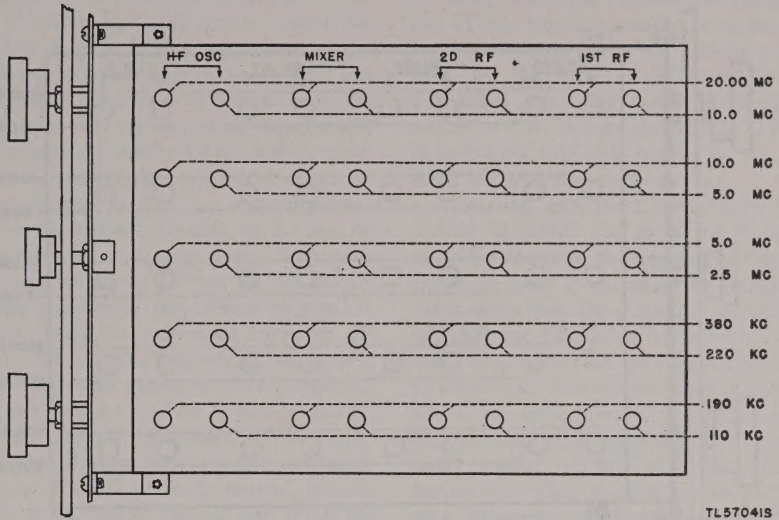

Figure 46. Radio Receiver BC-779-(*), alignment chart.
shown in figures 46, 47, 48, and 49, respectively. If necessary, the second harmonic can generally be used when the fundamental frequency is not available. For example, a signal generator covering all frequencies from 100 kc to 20 mc, in addition to being ideal for checking Radio Receiver BC-779-(*), could be used to check Radio Receiver BC-794-(*), by using the second harmonic of 20 mc instead of the 40 mc called for in figure 47. The signal generator should have an output of about 100 microvolts and an output impedance of approximately 100 ohms for best results when alining the r-f and h-f oscillator circuits. For i-f alinement these values are not critical. The frequency calibration of the signal generator is extremely important in order that the receiver dial calibration be correct.
b. To correct dial calibration, refer to an alinement chart, figure 46, 47, 48, or 49 for the location of the h-f oscillator adjustments as well as the signal frequencies at which the settings should be made. If the 2.5- to 5.0-mc band is to be corrected, the signal generator may be *accurately* set to 2.5 mc and its second harmonic (if strong enough) used for the 5.0-mc end of the band. In either case, whether the 5.0-mc frequency is the fundamental or second harmonic, the 5.0-mc frequency *must* be accurate. This requires that the setting of the signal generator be accurately adjusted by the use of a frequency meter as described in paragraph 94. The output of the signal generator should be unmodulated and the SIGNAL MOD-CW switch on the receiver turned to CW. Set the BEAT OSCILLATOR control at 0, the AUDIO GAIN at 10, and the AVC-MANUAL switch on MANUAL. Disconnect the output meter and use headphones or loudspeaker to make the necessary adjustments by the zero beat method. Connect the signal generator to the antenna terminals for this test.
c. Set the receiver MAIN TUNING dial to the 5.0-mc end and then tune it to zero beat with the 5.0-mc output of the accurately calibrated signal generator. Notice the approximate dial error. Then turn the MAIN TUNING dial slightly toward the 5.0-mc calibration line until the beat note rises to a high pitch. Do not turn the dial far enough to raise the beat note so high that you cannot hear it. With the alinement screw driver adjust the trimmer capacitor marked H-F OSC-5.0 MC (fig. 46, 47,
48, or 49) until the beat note is again zero. Turn the MAIN TUNING dial still farther toward the 5.0-mc line and make a further adjustment of the trimmer capacitor to return to zero beat. Repeat this procedure as many times as necessary to bring the dial to exactly 5.0 mc. (It is evident that the dial could be set at once on exactly 5.0 mc and the trimmer turned enough at one time to produce zero beat, but the step-by-step method is recommended). Accurately set the signal generator to 2.5 mc by calibrating it with the frequency meter. Then tune in the 2.5-mc signal at the 1-f end of the MAIN TUNING dial and correct the calibration step-by-step, as before, using the inductance trimming adjustment H-F OSC-2.5 MC (fig. 46, 47, 48, or 49). Accurately set the signal generator for an output of 5 mc again, and tune the receiver to this frequency. It will be found that the adjustment of the inductance at 2.5 mc has changed the correction previously made at 5.0 mc. This is perfectly normal, because an adjustment at one end of the dial also affects the other end of the band. It will therefore be necessary to go back and forth several times from 2.5 to 5.0 mc in order to bring both ends of the dial scale into exact agreement with the signal frequency. Be sure that the signal generator is always accurately set.
c. Starting with the 2.5- to 5.0-mc band, set the MAIN TUNING dial at 5.0 mc (band spread dial at 100) and adjust the frequency of the signal generator for peak deflection of the output meter. Then check and adjust the setting of the trimmer marked MIXER and 5.0 MC in figure 46, 47, 48, or 49 for maximum reading on the output meter. Repeat this procedure on trimmers indicated as 2D RF and 1ST RF in the same row. If readjustments on one of these settings result in a sizable increase in output meter reading, slightly alter the SENSITIVITY control to reduce the reading to half-scale. After each adjustment check the tuning of the receiver to make sure that the test signal is still accurately tuned. The BAND SPREAD control may be used as a vernier for this purpose in those bands in which it operates (par. 15c). *This tuning check is extremely important at the high end of the 10- to 20-mc and 20- to 40-mc bands where there is some slight interaction between the mixer and h-f oscillator circuit.* After checking the three trimmers at the high end of this band, turn the MAIN TUNING dial to 2.5 mc and retune the signal generator to suit. Then check the three inductance adjuster settings marked 2.5 mc in the same row. Since adjustments at one end of a band also affect the other end of that band, it will be necessary to repeat the above procedure until no further improvement can be secured. The number of repetitions necessary will depend on how much mistuning existed to start with. Check the rest of the bands in the same manner.